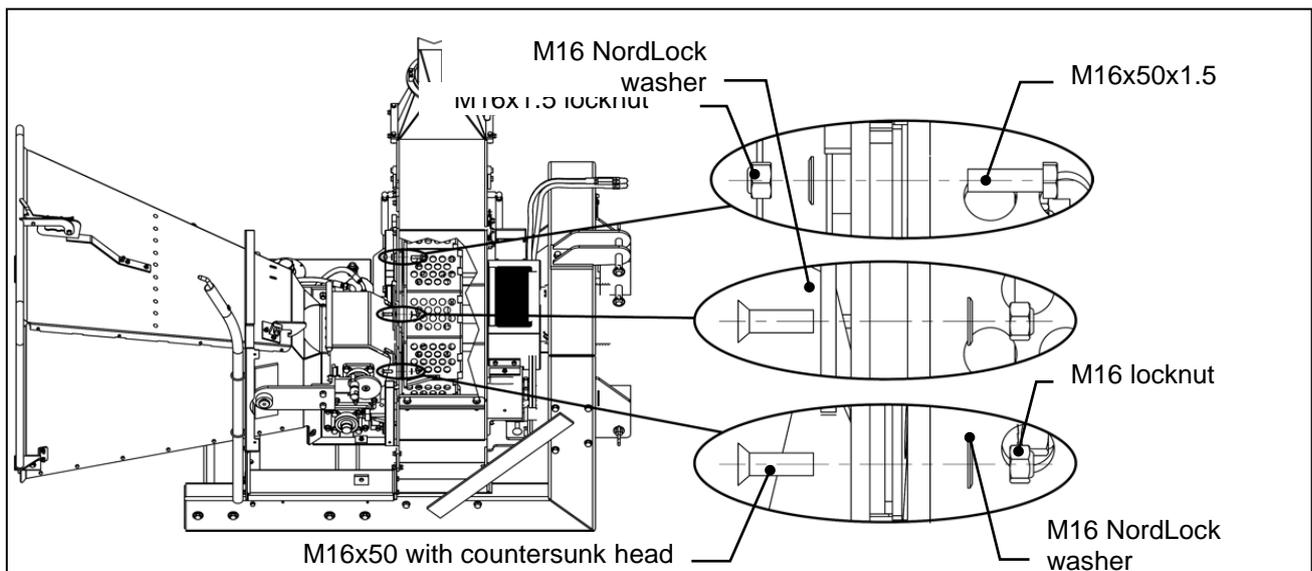

Figure 32: Bolt types for mounting screen segments against the side plate
- 4) The bolts securing the segments to the side plates in the bottom section of the rotor housing can now be removed one segment at a time from one end. As you remove the segments, it can be beneficial to turn the rotor and lock it in a different position to remove the last segments. See Figure 32